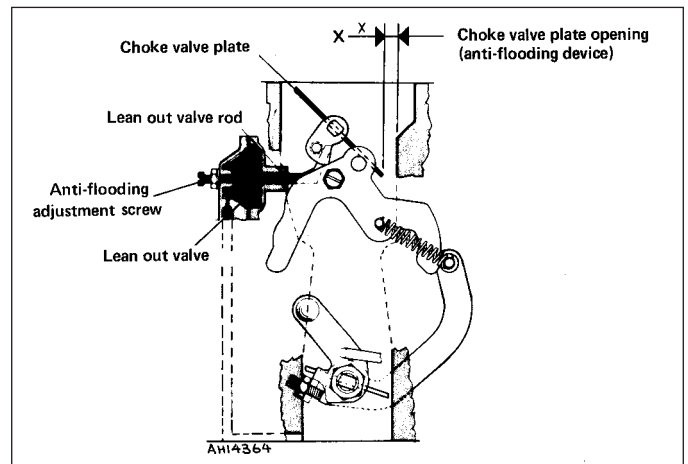

Fig. 3.19 Anti-flooding device adjustment diagram (Solex C32 DISA 11) (Sec 10)
11 There should be a gap (X) (Fig. 3.19) between the edge of the choke valve plate